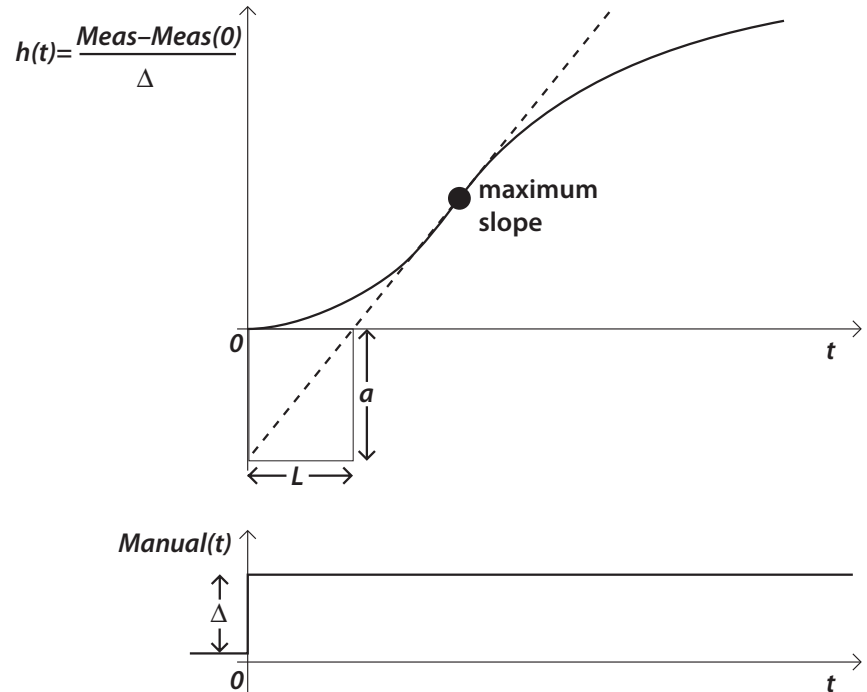

Figure 2.2: The open-loop step response of the process.
- Observe the point of maximum slope in  $h$ . Extend a straight line through this point, tangent to  $h$ , downward (see Figure 2.2).
- Let  $L$  be the time coordinate where the straight line crosses  $h = 0$ ; and let  $a$  be the negative of the  $h$ -intercept (i. e.,  $a > 0$  in Figure 2.2).